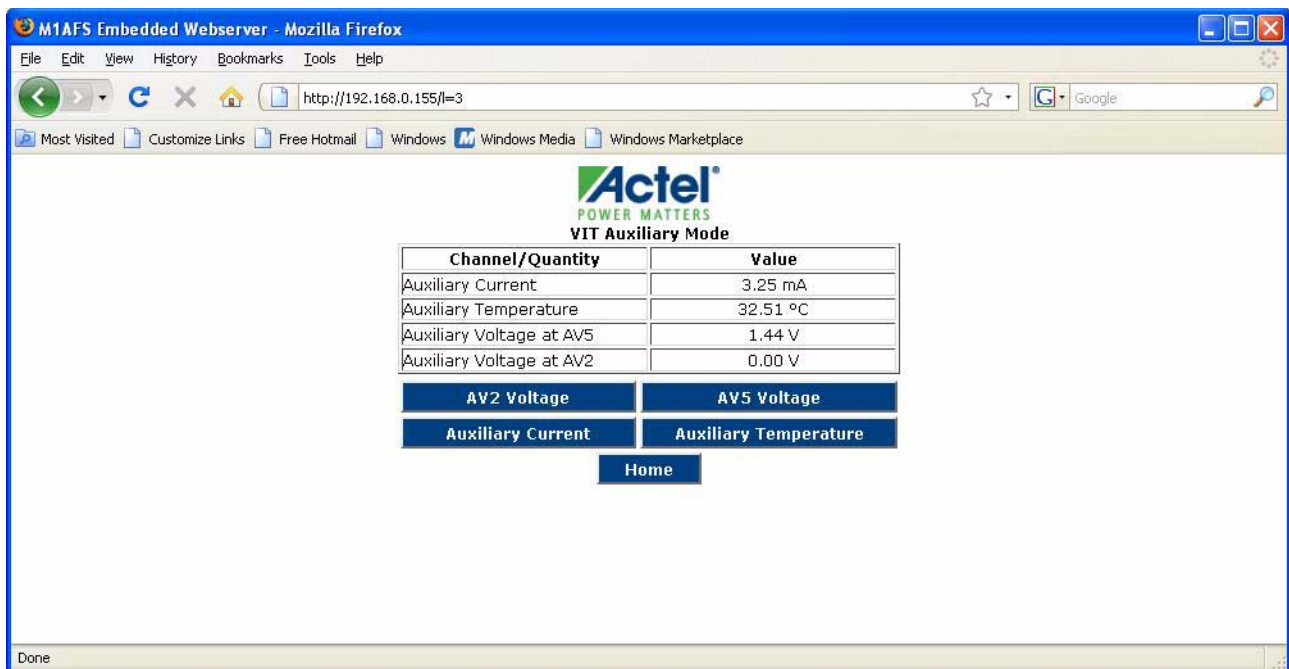

Figure 2-24 · VIT-Auxiliary Mode
6. The web page displays the auxiliary current, auxiliary temperature, auxiliary voltage at AV5, and auxiliary voltage at AV2 channel (Figure 2-24 on page 25).